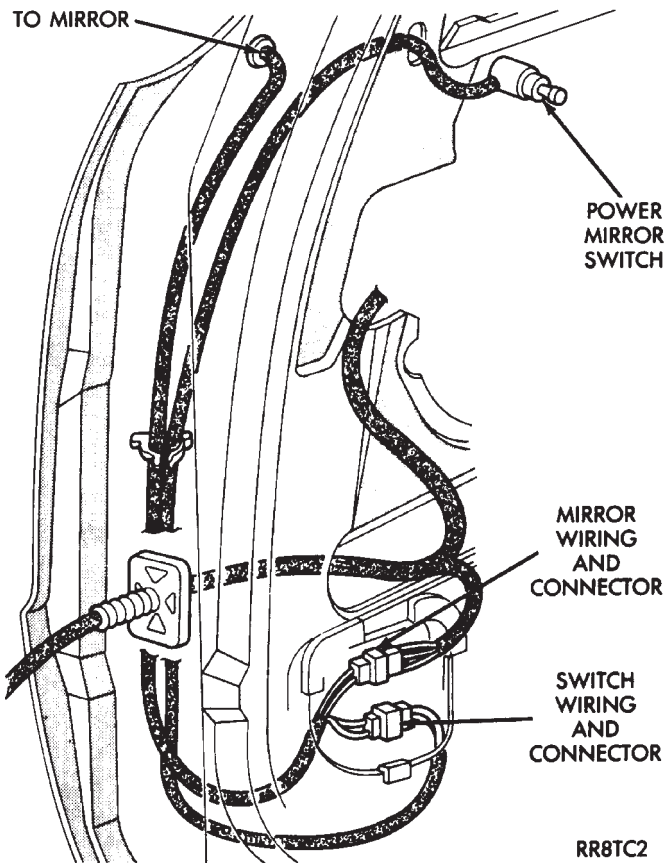

Fig. 12 Power Mirror Switch and Wiring — AC and AY Bodies
- (1) Remove door trim panel.
- (2) Remove three pillar trim bezel retaining screws and pull bezel from door.
- (3) Loosen remote control switch retaining screw and pull switch from bezel.
- (4) Disconnect switch wiring at connector near bottom of door and pull switch and harness from door (Fig. 12).
- (5) For installation, reverse above procedure.